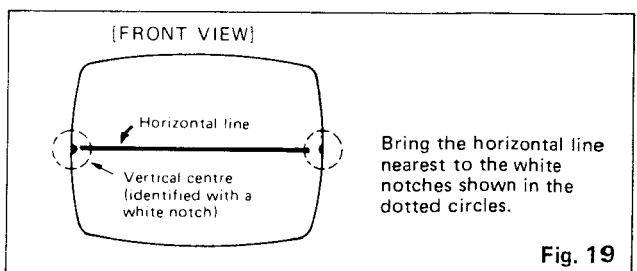

Fig. 19
6. Check the vertical center position by displaying a horizontal line. Unless correct, bring it to the center by rotating the two tabs, kept at an angle, together in either direction. (Fig. 19, 20)